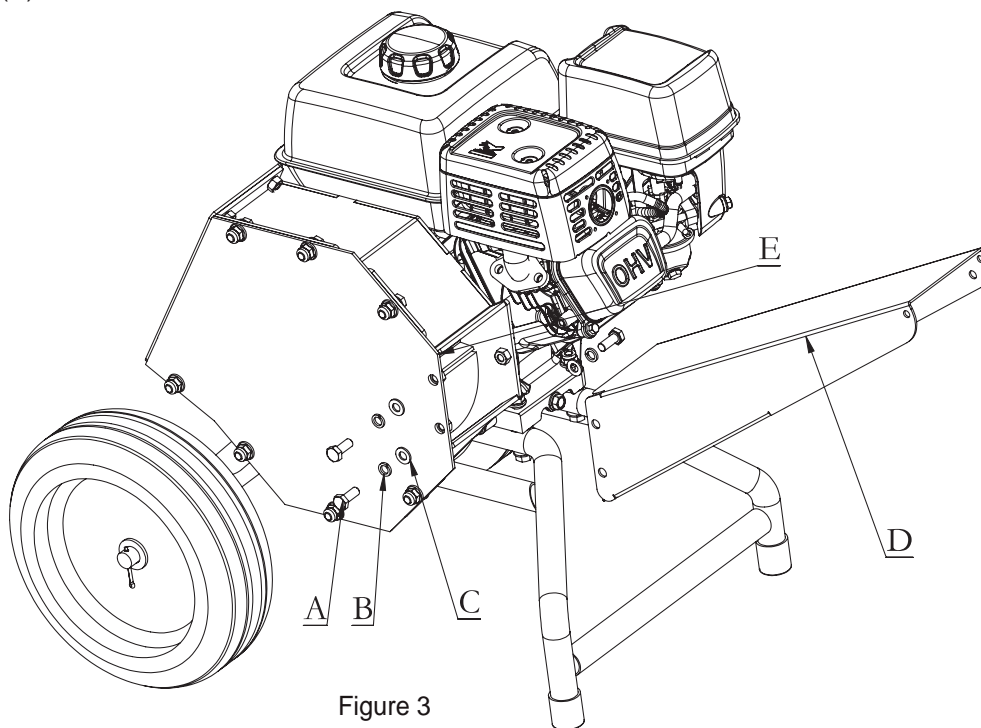

Figure 3
3. Fixed the discharge chute (See Figure 3)